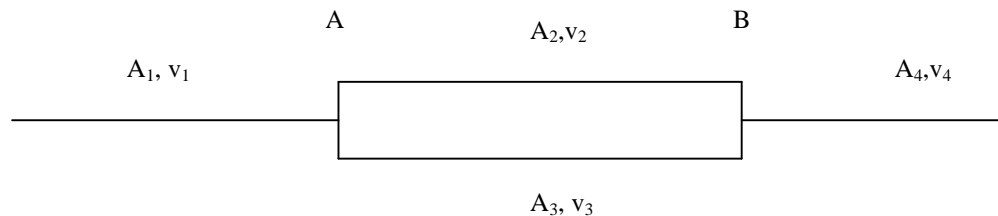

Figure 8.
Figure 8 shows a pipe network where the feeder pipe (1) divides into two pipes (2,3) of different diameters at point A and rejoins at point B to become another pipe section (4).